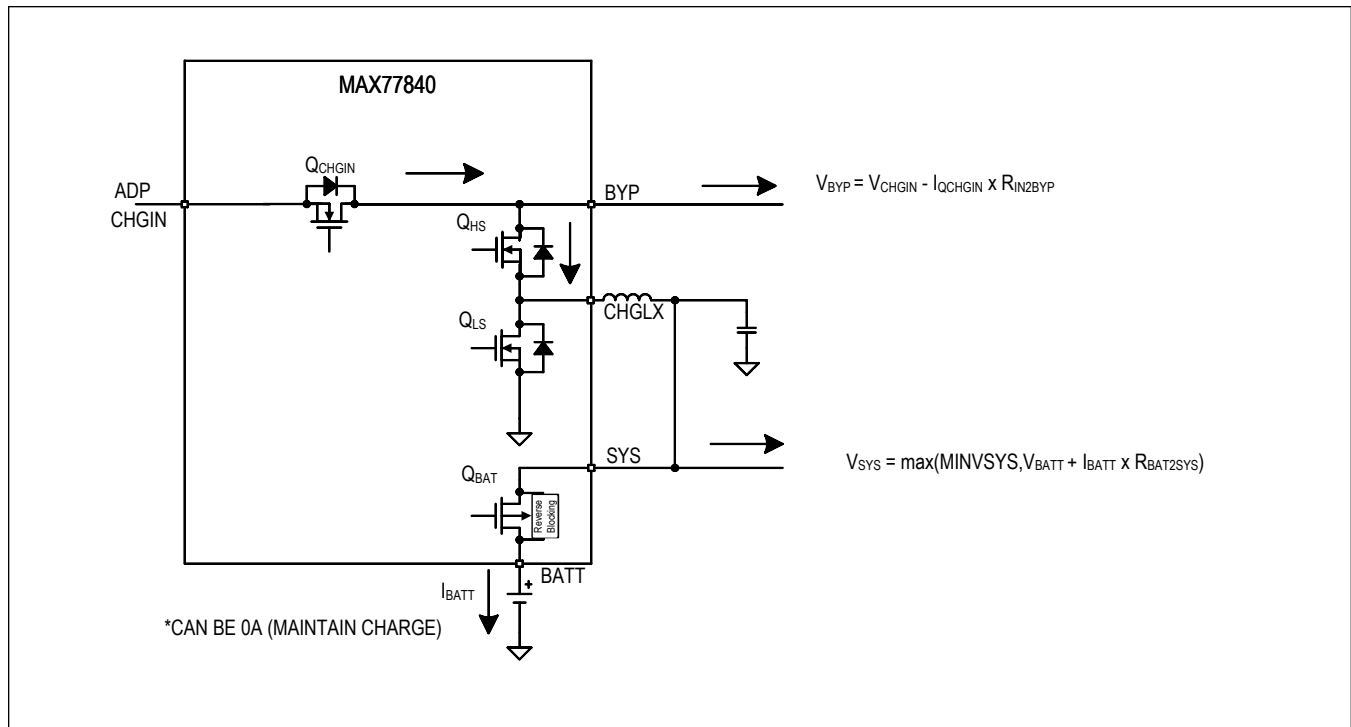

Figure 8. Charge-Buck
- CHARGE-BUCK, MODE = 0x0D: The adapter is detected within the input voltage operating range (Q_{CHGIN} = on). Battery is connected in charge mode (Q_{BAT} = on) and charger is operating in buck mode, see Figure 8.